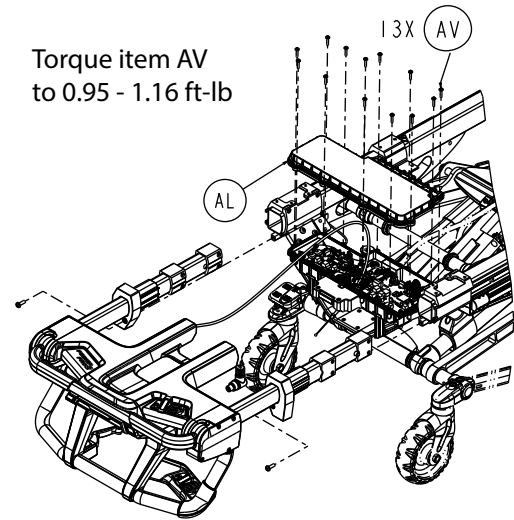

Figure 64 – Remove the FEIB enclosure screws
9. Using a T20 Torx driver, remove the thirteen round washer head tapping screws (AV) that secure the top FEIB enclosure (AL) to the bottom FEIB enclosure (Figure 64). Save the screws.